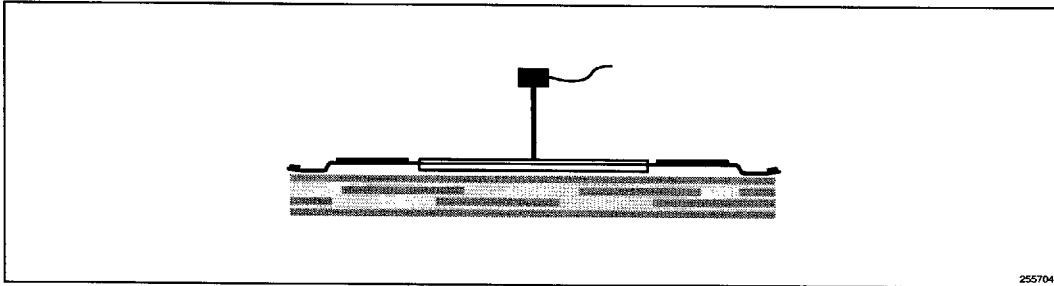

Figure 27. Technique for Measuring Case Temperature (T_c) on TCP
• The thermocouple should be attached at a 90° angle as shown in Figure 27.